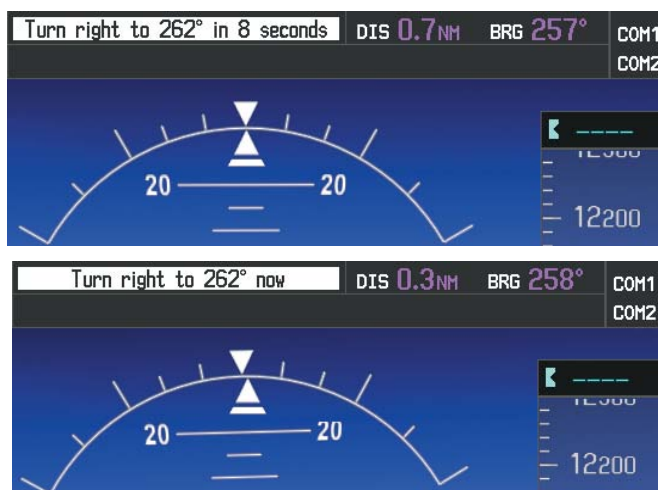

Figure 5-118 Turn to Intercept V244
- 8) At SLN, Victor Airway 244 (V244) is intercepted. Turn prompts are displayed in the PFD Navigation Status Box as seen in Figure 5-118.